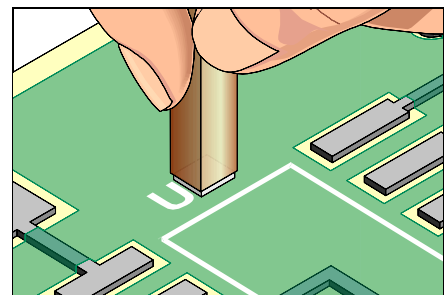

Figure 1: Apply legend using a peg stamp.
6. Gently press the peg stamp onto the desired location on the PC board surface. (See Figure 1).